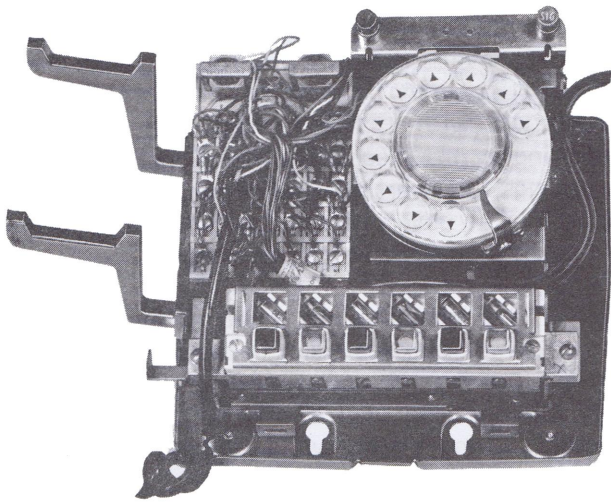
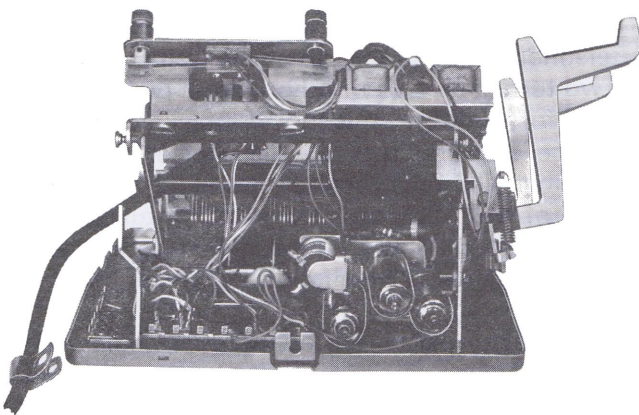

Figure 5. Front View of a Rotary-dial-equipped Type 187 Telephone Set with Housing and Faceplate Removed.
Figure 6. Rear View of Type 187 Telephone Set with Chassis Raised and Common Audible Signal Unit in Place.
2.11 Figure 5 is a front view of the rotary dial equipped Type 187 Telephone Set with the housing and faceplate removed. Figure 6 is the rear view of the same set with the chassis raised and a common audible signal installed. Both the wall and the desk configurations of the Type 187 Telephone Set are constructed on the same type of pressed steel base, to which are eyeleted two U-shaped brackets for support of the chassis. The bracket with the shorter vertical legs runs laterally near the edge of the base which forms the front of the desk telephone set, and the top of the wall-mounting set. Two turned up tabs with horizontal pierced slits extend forward from this shorter bracket and serve to engage securing lugs in the shorter wall of the housing. The taller bracket lies along the opposite edge of the base, and has a central turned up tab with a vertical slot for engaging a housing securing screw located in the taller wall of the housing.